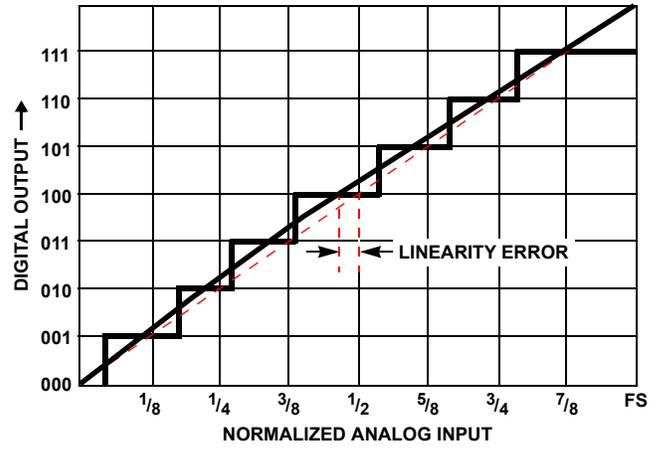

FIGURE 8. LINEARITY ERROR
**Linearity.** The maximum deviation from a straight line drawn between the end points of the converter transfer function. Linearity is usually expressed as a fraction of LSB size. The linearity of a good converter is  $\pm 1/2$  LSB. See Figure 8.